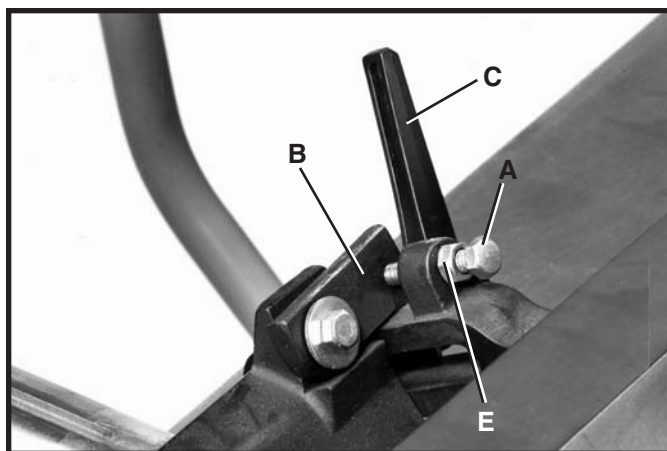

Fig. 22
1. Position the fence 90 degrees to the table making sure end of stop screw (A) is against stop (B) as shown in Fig. 22. Then tighten lock handle (C).
3. If the fence is not at 90 degrees to the table, loosen lock handle (C) Fig. 22, and lock nut (E). Turn stop screw (A) until end of screw (A) contacts stop (B) when fence is 90 degrees to the table and lock handle (C) is tightened.